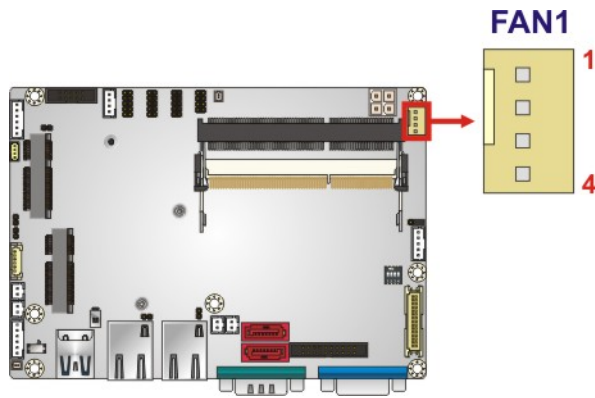

Figure 3-27: System Fan Connector Location
- CN Location:** See **Figure 3-27**